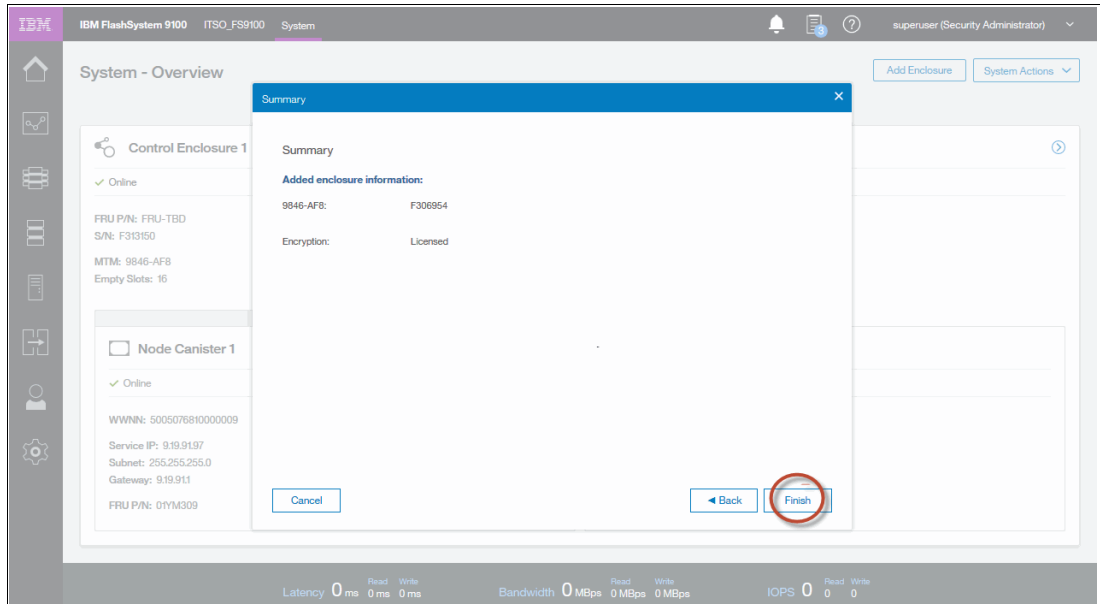

Figure 5-40 Select Finish
6. Review the summary in the next window and click **Finish** to add the control enclosure and all its expansions to the system as shown in Figure 5-40.